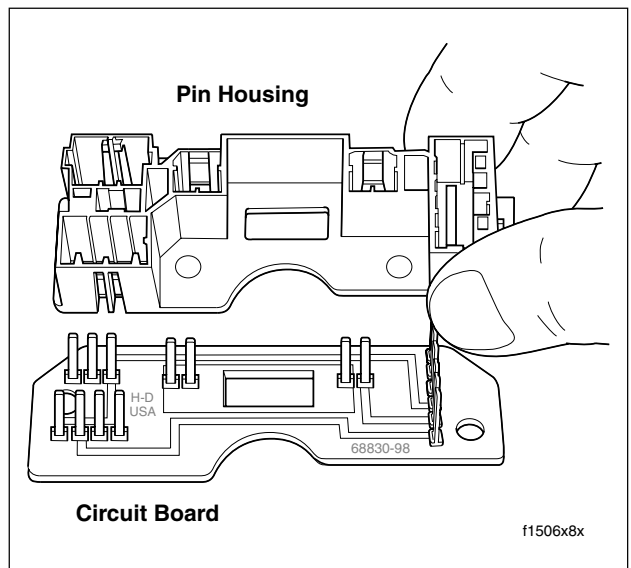

Figure 8-41. Place Pin Housing Over Circuit Board
3. Place pin housing over circuit board, if removed. See Figure 8-41.